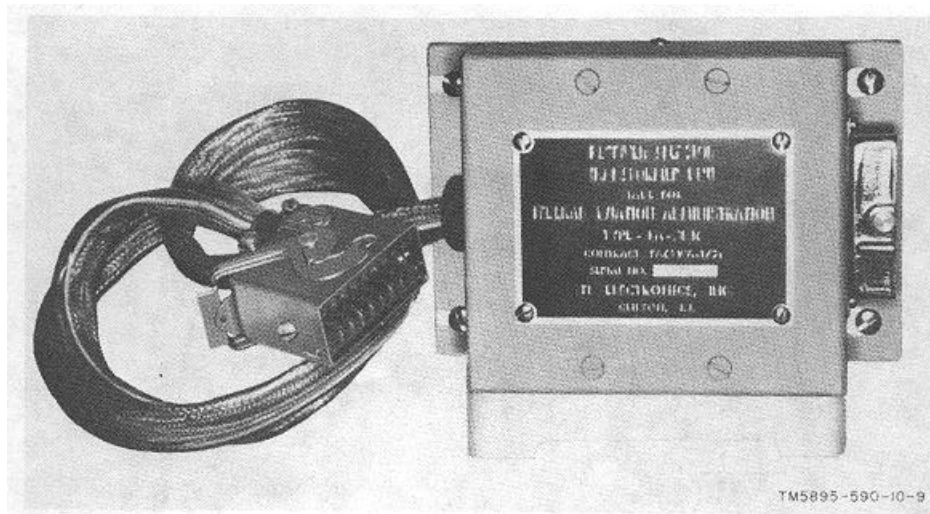

Figure 1-12. Transformer, Voltage, Step-Up TF-553/FSQ-75(V).
(9) *Transformer, Voltage, Step-Up TF-553/FSQ-75(V)* (fig. 1-12). The receiver selector transformer consists of four separate autotransformers mounted on a common chassis. The components are protected with a dust cover. The unit provides a 4 to 1 voltage step up.